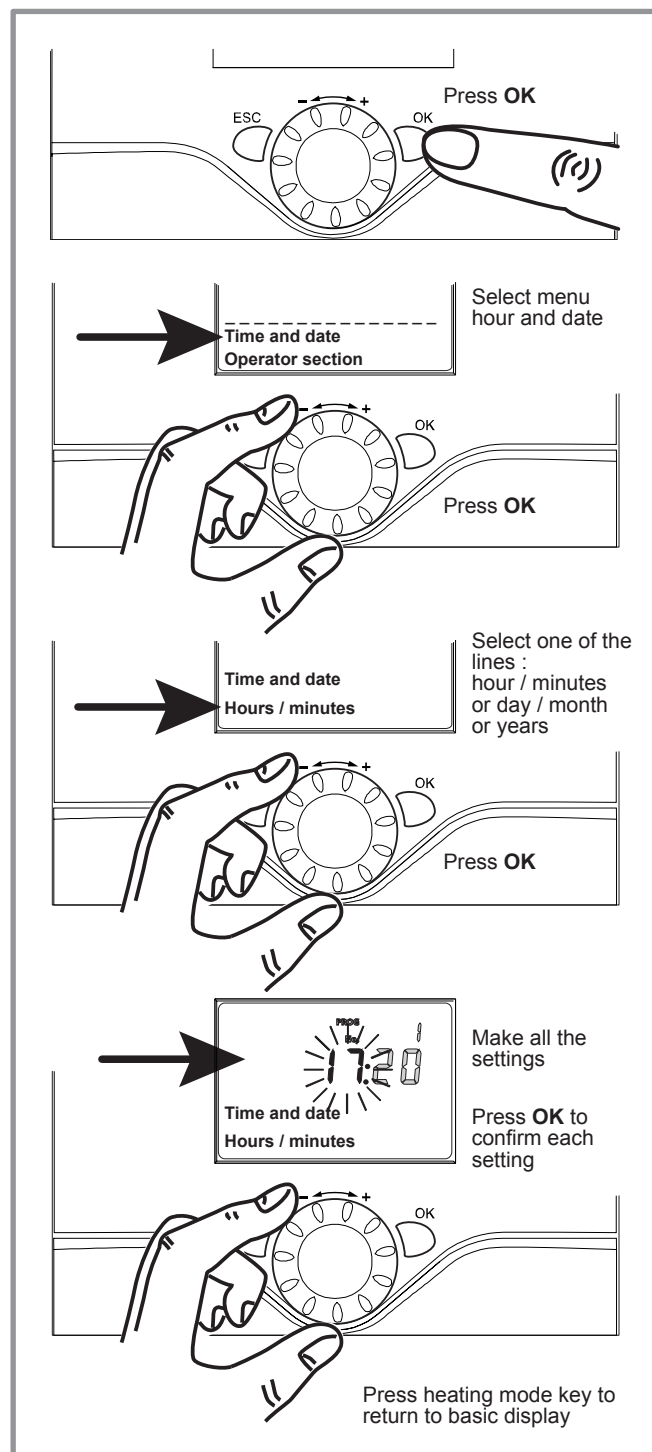

figure 7 - Setting the time and the date
- Adjust the date and time if necessary (figure 7).